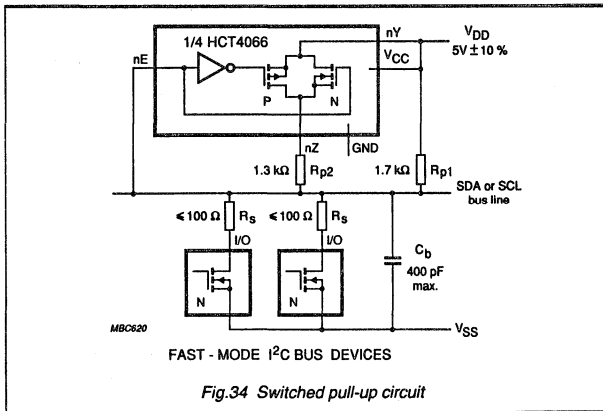
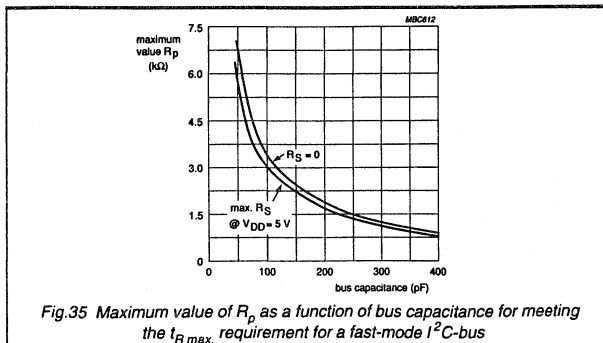

Fig.34 Switched pull-up circuit
Fig.35 Maximum value of  $R_p$  as a function of bus capacitance for meeting the  $t_{Rmax}$  requirement for a fast-mode I2C-bus
- The external pull-up devices connected to the bus lines must be adapted to accommodate the shorter maximum permissible rise time for the fast-mode I2C-bus. For bus loads up to 200 pF, the pull-up device for each bus line can be a resistor; for bus loads between 200 pF and 400 pF, the pull-up device can be a current source (3 mA max.) or a switched resistor circuit as shown in Fig.34.
The supply voltage ( $V_{DD}$ ) and the maximum output LOW level determine the minimum value of pull-up resistor  $R_p$  (see Section 9.1). For example, with a supply voltage of  $V_{DD} = 5\text{ V} \pm 10\%$  and  $V_{OL\text{ max.}} = 0.4\text{ V}$  at 3 mA,  $R_{p\text{ min.}} = (5.5 - 0.4)/0.003 = 1.7\text{ k}\Omega$ . As shown in Fig.35, this value of  $R_p$  limits the maximum bus capacitance to about 200 pF to meet the maximum  $t_R$  requirement of 300 ns. If the bus has a higher capacitance than this, a switched pull-up circuit as shown in Fig.34 can be used.
The switched pull-up circuit in Fig.34 is for a supply voltage of  $V_{DD} = 5\text{ V} \pm 10\%$  and a maximum capacitive load of 400 pF. Since it is controlled by the bus levels, it needs no additional control signals. During
The maximum and minimum values for resistors  $R_p$  and  $R_s$  connected to a fast-mode I2C-bus can be determined from Fig.23, 24 and 26 in Section 9.1. Because a fast-mode I2C-bus has faster rise times ( $t_r$ ) the maximum value of  $R_p$  as a function of bus capacitance is less than that shown in Fig.25. The replacement graph for Fig.25 showing the maximum value of  $R_p$  as a function of bus capacitance ( $C_b$ ) for a fast mode I2C-bus is given in Fig.35.
This allows series protection resistors (Rs) to be connected between the SDA/SCL pins and the SDA/SCL bus lines as shown in Fig.34 without exceeding the maximum specified tp.